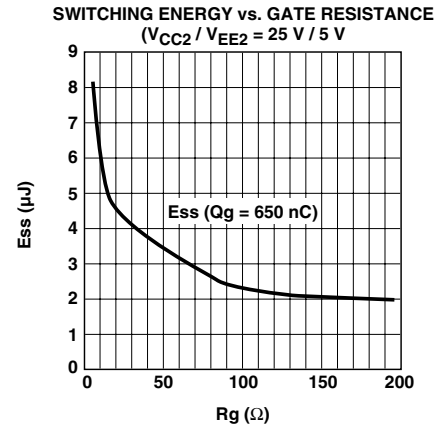

Figure 77. Switching Energy Plot for Calculating Average  $P_{switch}$  (for HCPL-316J Output Driving an IGBT Rated at 600 V/100 A).
2. Calculate total power dissipation in the part referring to Figure 77.
For  $R_G = 10.5$ , the value read from Figure 77 is  $E_{SWITCH} = 6.05 \mu\text{J}$ . Assume a worst-case average  $I_{CC1} = 16.5$  mA (which is given by the average of  $I_{CC1H}$  and  $I_{CC1L}$ ). Similarly the average  $I_{CC2} = 5.5$  mA.
$P_i = 90.8 \text{ mW}$ ,  $P_o = 314 \text{ mW}$ ,  $T_A = 100^\circ\text{C}$ , and assuming the thermal model shown in Figure 77 below.